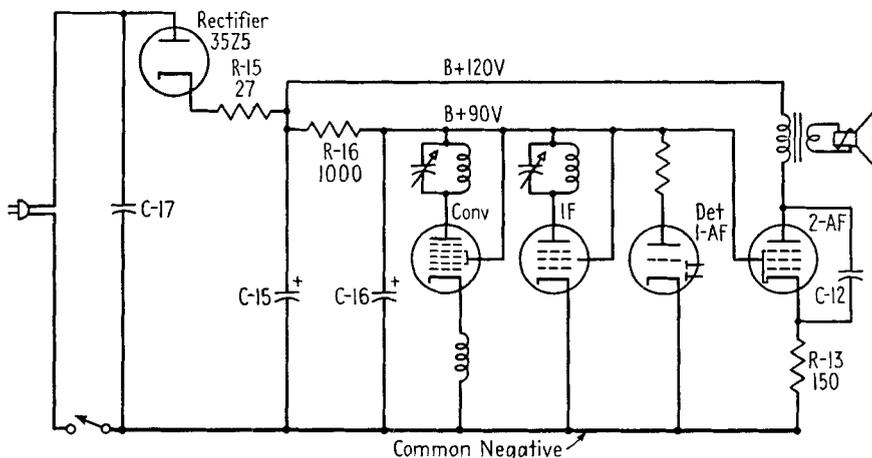

FIG. 18-24. Skeleton *B* circuit of a typical AC/DC receiver.
ing—Fig. 18-24 shows a complete *B* circuit of a typical receiver, for analysis of the likely locations of the short.
**Troubles common to the filter resistor.** As can be seen in Fig. 18-24, filter resistor *R*-16 carries the *B* current of the converter, IF, and detector-first AF tubes. Normally, it carries this load without difficulty. However, any short in the *B* plus line puts an overload on the resistor, causing it to overheat. This may cause it to change in value. Therefore, whenever a short in the *B* plus line is corrected, filter resistor *R*-16 and surge resistor *R*-15 should be carefully checked and replaced if there is any sign of harm caused by the overload.
12. In the *B* circuit breakdown of Fig. 18-24, assume that an ohmmeter check from common negative to *B* plus gives a reading of 40 ohms.